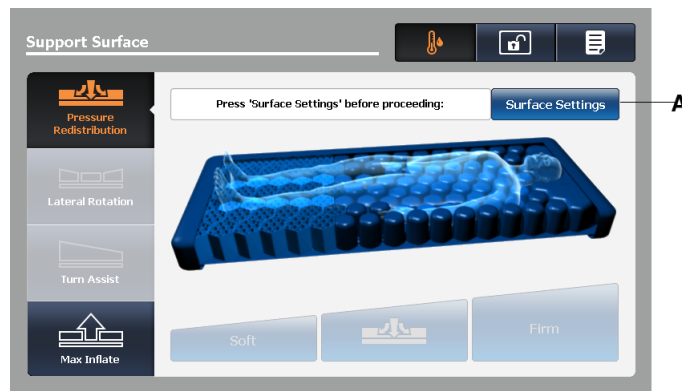

Figure 46 – Pressure redistribution screen
Tap **Surface Settings** on the Pressure Redistribution screen (A) (Figure 46).